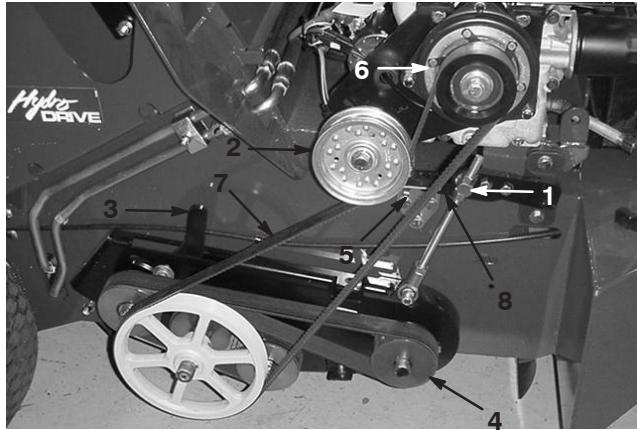

Figure 25
4. To remove the upper belt, loosen the upper idler (Fig. 25) and remove belt from machine.
5. To install upper belt, first verify that the upper idler (Fig. 25) is loosened and slides freely. Install belt on machine. To tighten idler, push down on idler with approximately 30 lbs. of force and tighten idler bolt. Do not use a lever for mechanical advantage. **Do not over tension belt. An over-tensioned belt can cause premature failure or wear. The electric clutch and other reel drive components are subject to damage when belts are over-tensioned.**
6. To remove lower reversing belt, loosen the two bolts on the rear idler adjustment arm (Fig. 25). Move adjustment arm forward and remove belt.
Note: The inside and outside of the belt are not the same. When looking at the front reel pulley (Fig. 25), with the belt installed, there should be two wide grooves on either side visible. Tighten the idler adjustment arm by pulling rearward with approximately 30 lbs. Torque both clamping bolts to 48 ft-lbs. Do not use a lever or a pry-bar for mechanical advantage when tensioning the belt with the idler adjustment arm.
2. Loosen the three bolts on the clutch switch bracket (Fig. 25).
3. Slide the clutch switch bracket until there is 1/8" of the clutch switch flag (Fig. 25) protruding through the bottom of the clutch switch bracket.